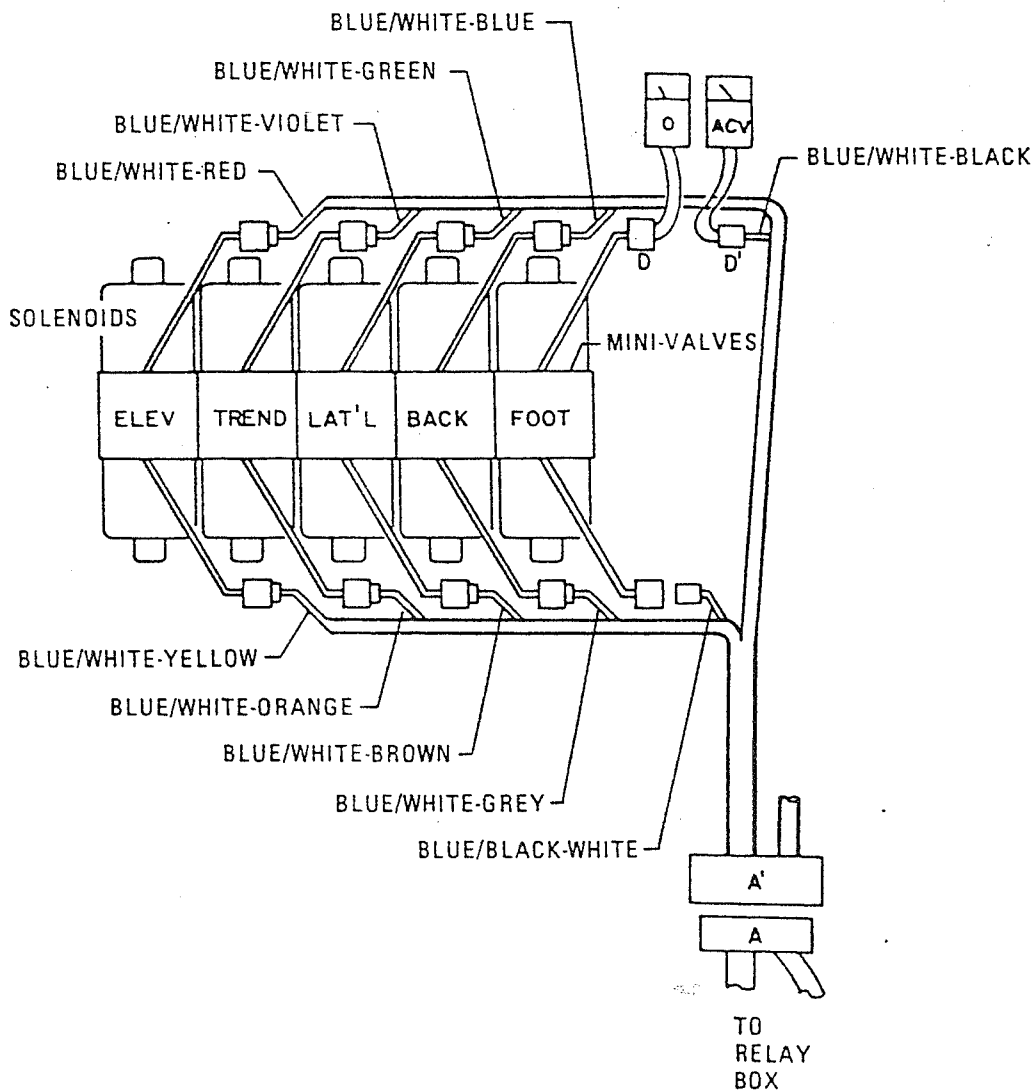

Figure 5-14. Model 5001 Solenoid Test
2. Disconnect the 2 pin connector from the solenoid in question, connector D' shown for example in Figures 5-14. and 5-15.
1. Measure the resistance between the two pin connector in question, connector D shown for example in Figures 5-14, and 5-15. Connector must be disconnected. Polarity of meter leads is not important.